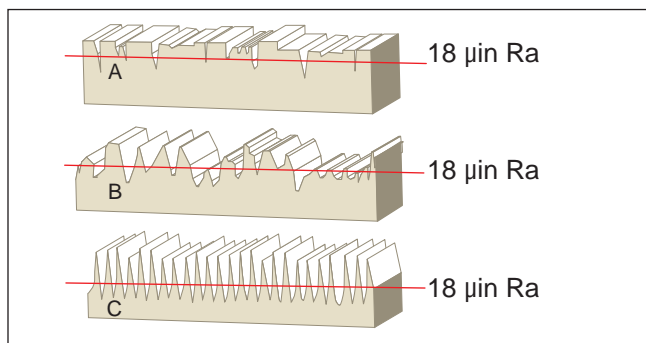

Figure 2-11. Different surface finishes yielding same Ra value
For many years, a single surface parameter has often been used to quantify surface finish. RMS (also known as Rq) stands for Root Mean Square and has historically been the most typical value. In more recent years, the Arithmetic Average Roughness, Ra, has become more frequently specified. Using either of these parameters by itself is inadequate to define a proper reciprocating sealing surface. Figure 2-11 depicts why this parameter alone cannot accurately describe a surface finish.
The three surface finishes shown in Figure 2-11 all have the same Ra value but very unique characteristics. The first profile (A) is an example of a proper surface finish for dynamic seals in which the sharp peaks have been minimized or removed. The second profile (B) will exhibit high wear characteristics because of the wide spacing between the peaks. The third profile (C) will also wear out the seals quickly because of its extremely sharp peaks.